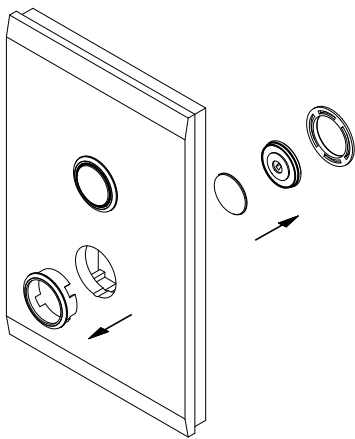

Fig 3: Remove existing switch, retaining clip, button and silver ring from wall plate
- Remove existing switch, retaining clip, button and silver ring from wall plate as per Figure 3.